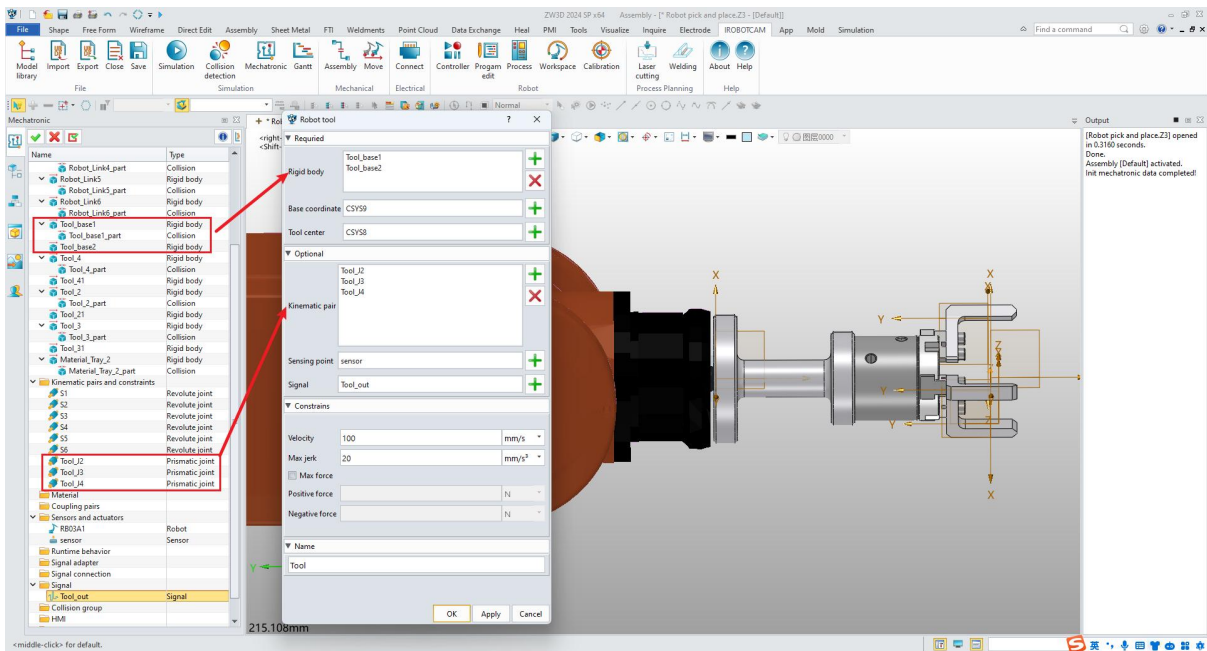

Figure 10-7: Robot Tool
- Click the "OK" button.(Figure 10-7)